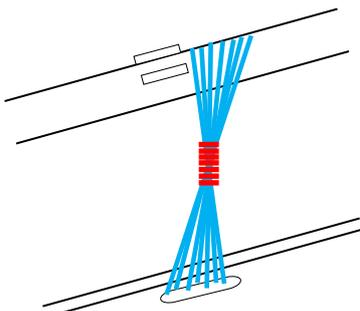

Figure 14: Frapping
- The line is then frapped (circled around) the mid-point of the gammoning (Fig. 14). Lees [1948] states that the *number of turns on the frapping is equal to the number of turns around the bowsprit*. The frapping is pulled tight to pinch the gammoning in the middle - this means that the gammoning itself must not be too tight around the bowsprit, otherwise pulling the frapping will not be possible and the gammoning won't look right.